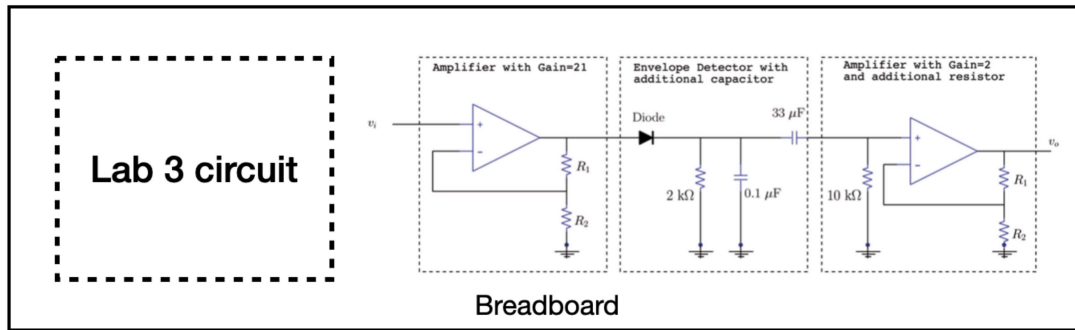

Figure 8: Breadboard layout.
3. Disconnect the AC input, and then turn off the DC supplies. Without modifying the non-inverting amplifier you just built, build the non-inverting amplifier with a gain of two that you designed in the prelab. Place your new circuit to the right of your protoboard, allowing for some extra space in between the two amplifiers. In addition, leave some space for lab 3 in the leftmost section of the breadboard. You may use the configuration shown in Figure 8.